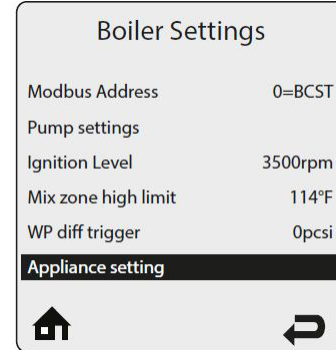
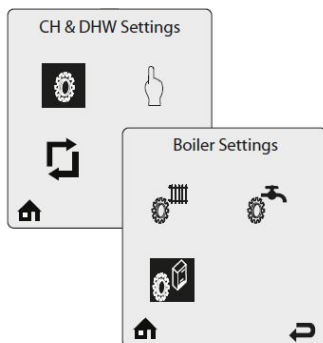

Fig. 11: Appliance setting
Fig. 10: Installer Menu
2. Go to boiler settings and click appliance setting, as seen in Fig. 10 and Fig. 11.